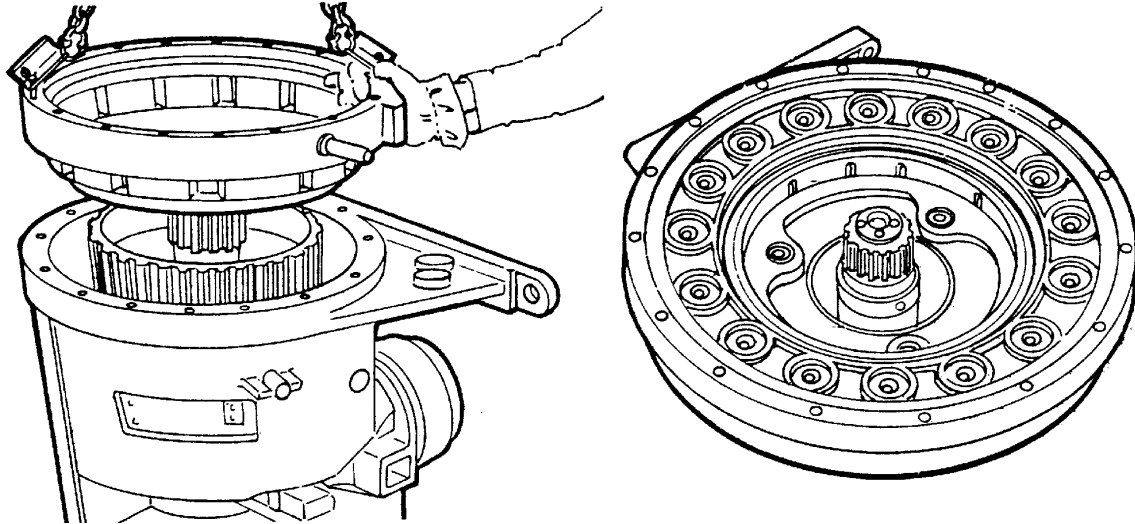

Fig. 7.36. End and Brake Retainer Plate with Piston
12. If retainer plate (60) was removed from retainer plate (59), assemble them with bolts and torque to 92 Nm. With a hoist assemble retainer (59 and 60) onto housing (Fig. 7.36). Align with marks made during disassembly. Install nine friction discs (12) and eight separator plates (15). Start with a friction disc and end with a friction disc. Install new seal rings and O-rings (62 thru 65) on piston (61). Lubricate seals and carefully install piston into retainer (59).